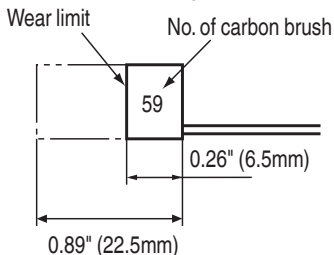

Fig. 6
4. Inspecting the carbon brushes (Fig. 6)
Use HITACHI carbon brush No. 59 indicated in Fig. 6.